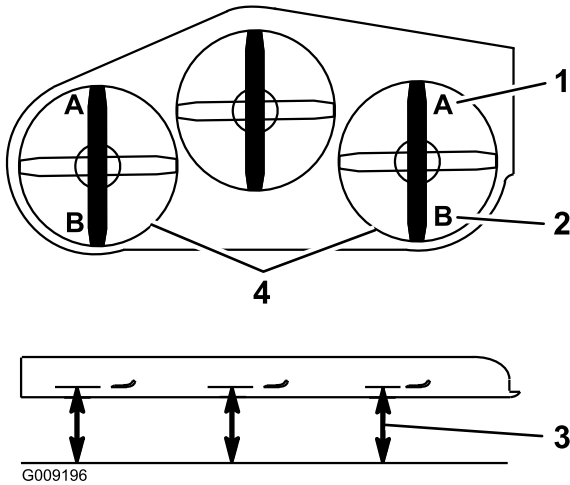

Figure 72
9. On both sides of the deck, measure from the level surface to the front tip of the blade (Position A). The measurement should read 7.6 mm (3 inches) (Figure 72).
15. On both sides of the deck, measure from the level surface to the back tip of the blade (Position B). The measurement should read 8.3 cm (3-1/4 inches) (Figure 72).